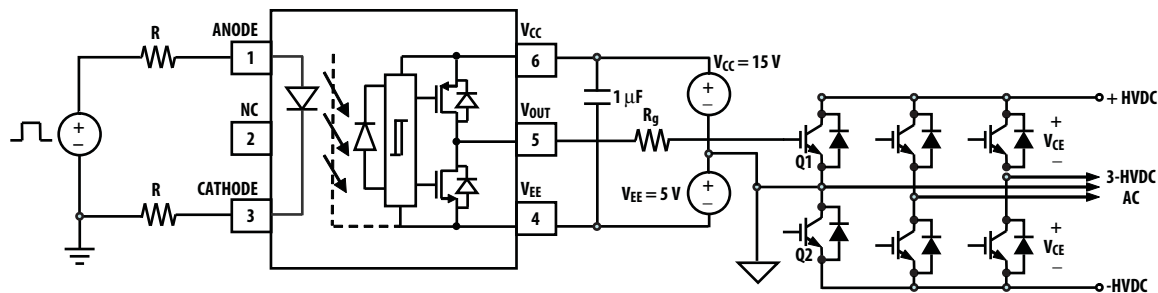

Figure 22. Recommended application circuit with split resistors LED drive
The recommended application circuit shown in Figure 22 illustrates a typical gate drive implementation using the ACPL-P340. The following describes about driving IGBT. However, it is also applicable to MOSFET. Designers will need to adjust the  $V_{CC}$  supply voltage, depending on the MOSFET or IGBT gate threshold requirements (Recommended  $V_{CC} = 15\text{ V}$  for IGBT and  $12\text{ V}$  for MOSFET).
**Step 1:** Calculate Rg minimum from the  $I_{OL}$  peak specification. The IGBT and Rg in Figure 22 can be analyzed as a simple RC circuit with a voltage supplied by ACPL-P340/W340.
The ACPL-P340/W340 includes a Propagation Delay Difference (PDD) specification intended to help designers minimize “dead time” in their power inverter designs. Dead time is the time period during which both the high and low side power transistors (Q1 and Q2 in Figure 22) are off. Any overlap in Q1 and Q2 conduction will result in large currents flowing through the power devices between the high and low voltage motor rails.